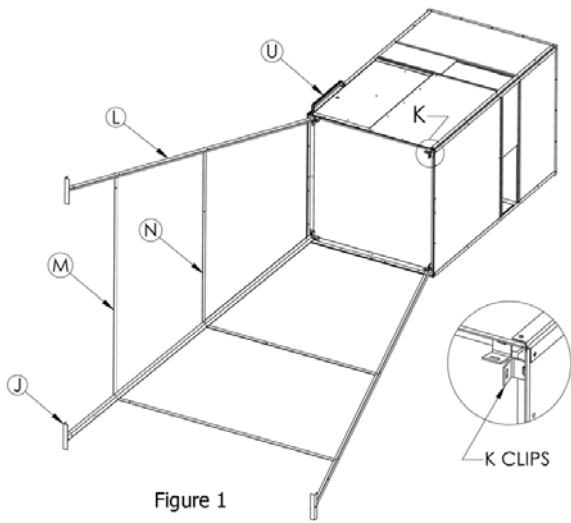
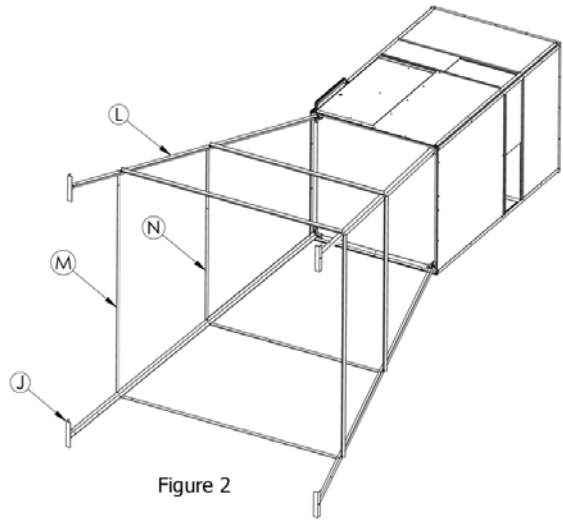
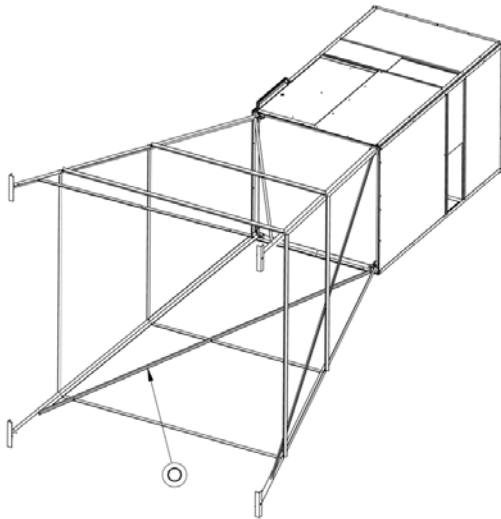

Figure 1
Figure 2
Figure 3
1. Remove the (K) clips from this package and assemble the blind, being sure to install these clips according to the blind instructions.
3. Attach the (U) handle to the (S) corner post nearest the door opening. Remove the first and second bolts from the bottom of the (S) corner post. Position the (U) handle and attach by reinstalling the bolts. (Fig. 1)
4. Attach the (L) Legs to (K) K-Clips using (M) & (N) Horizontal Bracing as necessary for support. (Fig. 1)
5. Complete the tower by adding all braces as shown. (Fig. 2 & Fig. 3)
6. Attach the (J) Feet as shown. (Fig 2)
10. Build the 10' Tower using the instructions included in its package. Note: Do not install the (J) Feet during the Tower assembly.
11. Attach the (#1) Extension Legs to the (L) Tower Legs using (#6) Leg Splice. Use the (#2) Horizontal Bracing as necessary for support. (Fig. 1 & Fig. 2)
12. Attach the (#3) Diagonal Bracing to the interior side of the (#1) Extension Legs & the (L) Tower Legs. (Fig. 3)
13. Attach the (J) Feet as shown. (Fig 3)